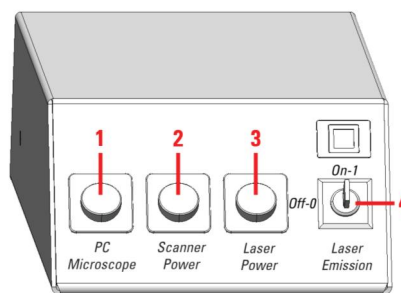

Fig. 2 Main control unit
- 2) From the main control unit turn on the PC Microscope switch (Fig. 2, (1))
- 4) From the main control unit turn on the Scanner Power (Fig. 2, (2))
- 5) From the main control unit turn on the Laser Power (Fig. 2, (3))
- 6) From the main control unit turn the Laser Emission Key to ON (Fig. 2, (4))